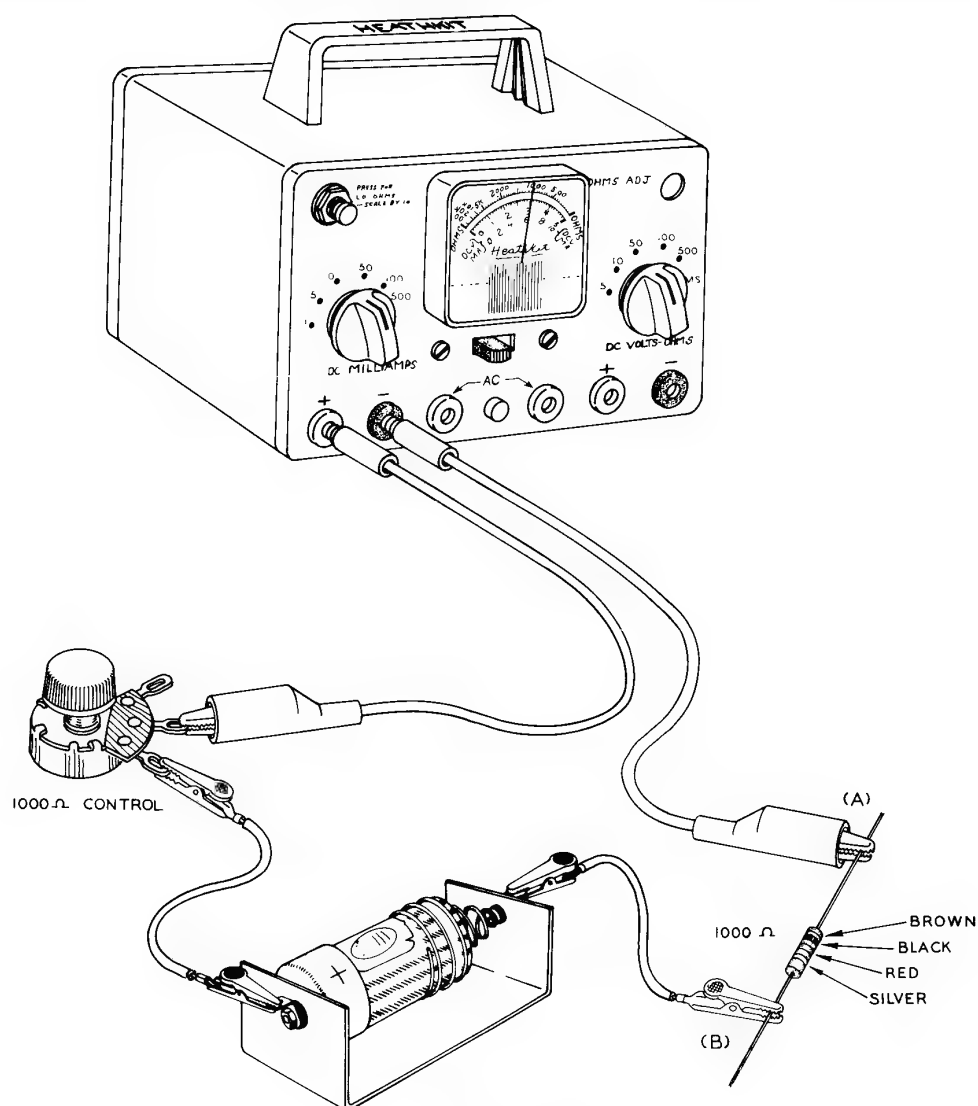

Figure 3-11
Since the two test leads (A) and (B) were held together in order to complete the circuit, zero resistance now exists between the two leads. The full scale position is then marked "0", as this is where the pointer rests when there is zero resistance between the two leads. Now clip a 1,000 Ω resistor (brown-black-red and silver bands painted on the body of the resistor) between the two test leads, as shown in Figure 3-11, and observe the new location of the pointer.